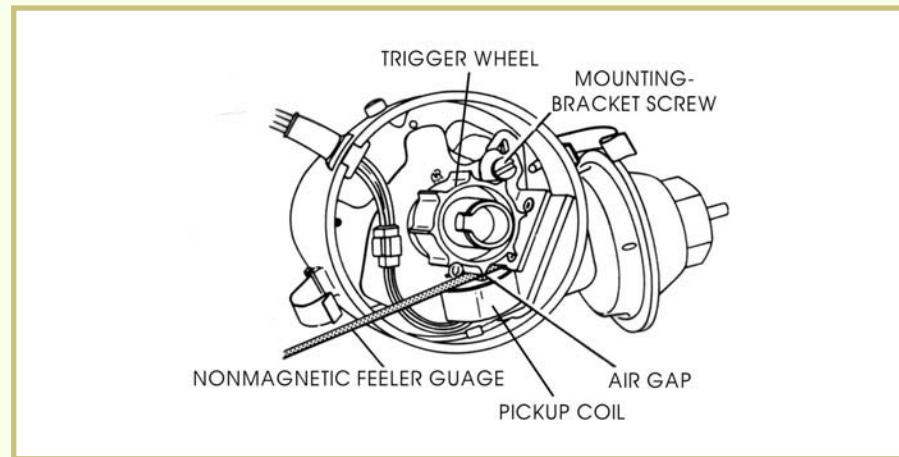

FIGURE 20—A nonmagnetic feeler gage is used to set the air gap between the trigger wheel and the pickup coil.
- Step 2:* Crank the engine until one trigger wheel tooth is aligned with the pickup coil core (Figure 20).